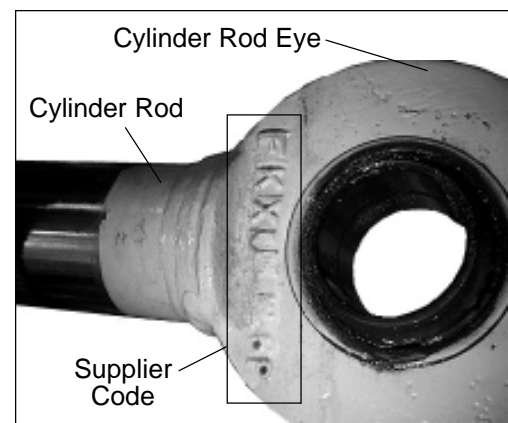

Figure 1 — Supplier Code Location
2. Look at the boom lift cylinder rod eye attached to the boom. A supplier code is cast in the rod eye (refer to Figure 1). The code is four letters. If the supplier code is **FKXU** or **FKMG**, the boom lift cylinder will need to be uninned and lowered for further inspection. Go to Step 3. If the supplier code does not match either of those listed here, the inspection is complete. Go to Step 9.